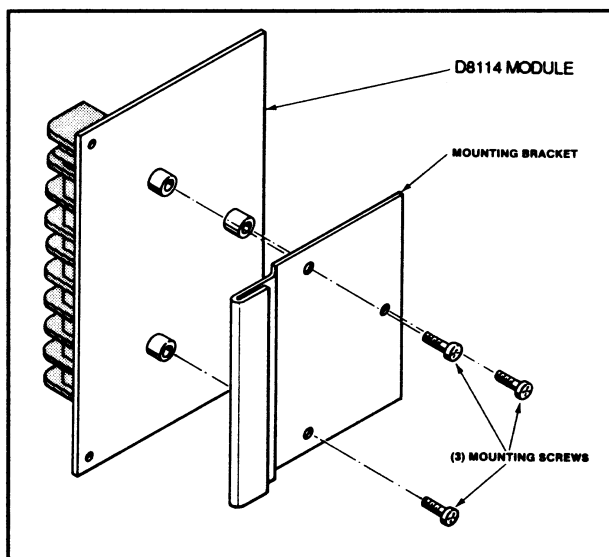

Figure 3: D137 Mounting Bracket
1. Attach the D8114 to the bracket with the three screws provided (see Figure 3).